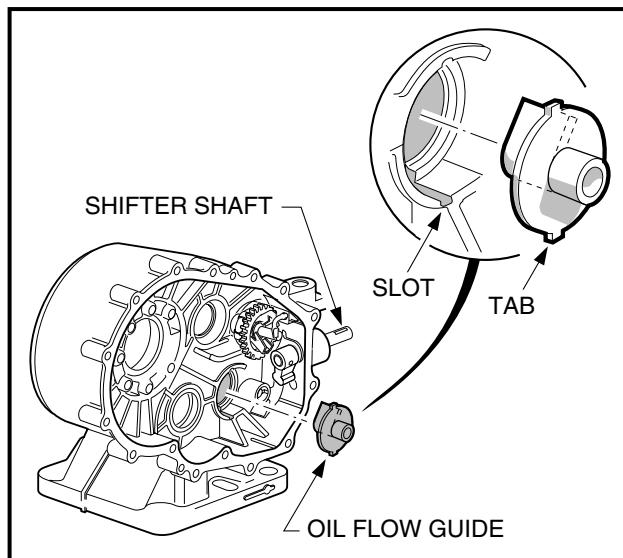

Figure 7-10 Oil Flow Guide
12. Remove the oil flow guide from the case (**Figure 7-10, Page 7-6**).
13. Remove the shifter shaft and oil seal from the case (**Figure 7-10, Page 7-6**).